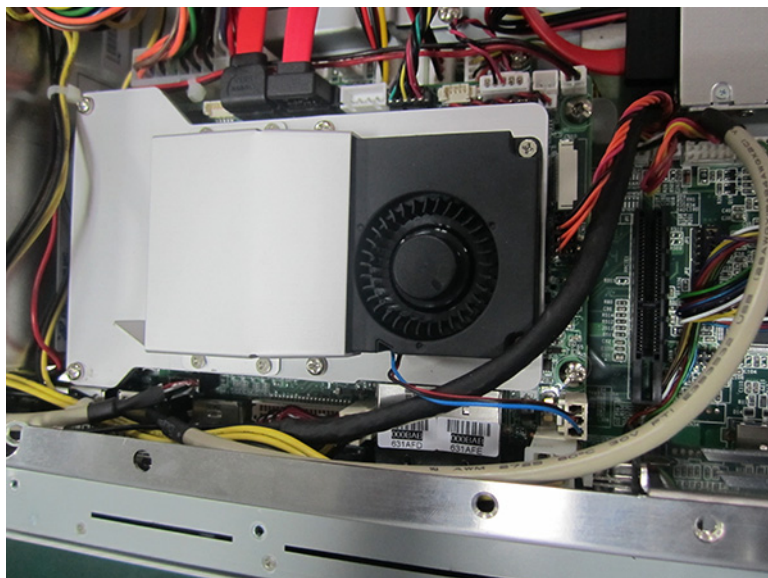

Figure 2.35
4. Reinstall the MIO mainboard, lock the screws and return the cables according to Procedure 3-6. Check all cables are correctly connected, as shown in Figures 2.35, 2.36 and 2.37 respectively.
5. Lock the cooler onto MIO mainboard and connect the MIO fan cable. (See Fig 2.35)